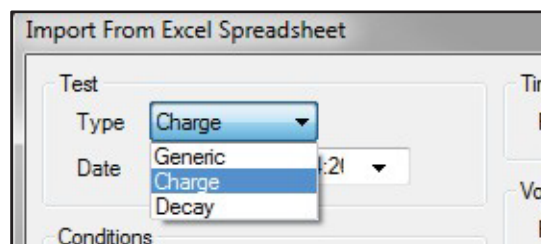

Figure 43: Test Type Window
4. Select the **Test Type** from the drop down “Type” window (Figure 43). Once imported, the **Session Wizard** will respond to the type designation.